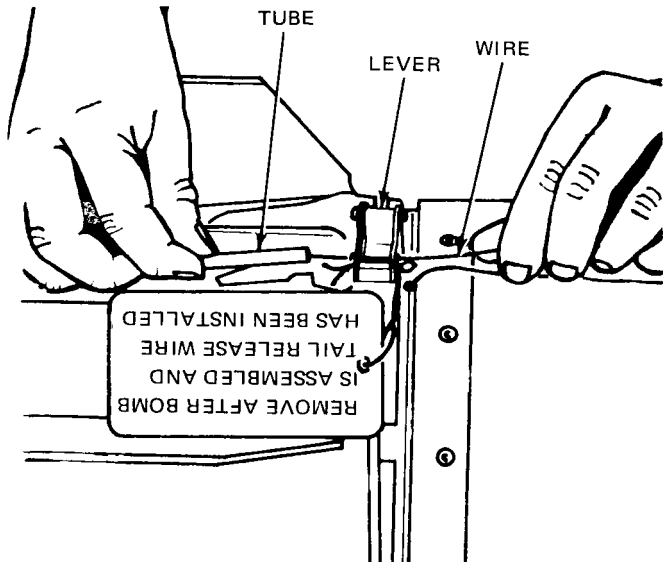

Figure 3-15. Installation of Fin Release Wire
17. Install appropriate fin release wire (0.064 diameter arming wire) and guide tube as shown in figures 3-15 and 3-16. Tube must pass under link pin and over clevis bolt. Ensure that tube aligns with fin release wire holes in release band lever. Disregard all WARNING decals on fin concerning Fahnestock clips. If fin release wire guide tube is not available, use aluminum tubing of 1/4-inch outside diameter and 0.035 to 0.049 wall-thickness. Cut to length of $22 \pm 1/16$ inches.
7. Install appropriate fin release wire (0.064 diameter arming wire) and guide tube as shown in figures 3-15 and 3-16. Tube must pass under link pin and over clevis bolt. Ensure that tube aligns with fin release wire holes in release band lever. Disregard all WARNING decals on fins concerning Fahnestock clips and wire routing. If fin release wire guide tube is not available, use aluminum tubing of 1/4-inch outside diameter and 0.035 to 0.049 wall thickness. Cut to length of $22 \pm 1/16$ inches.